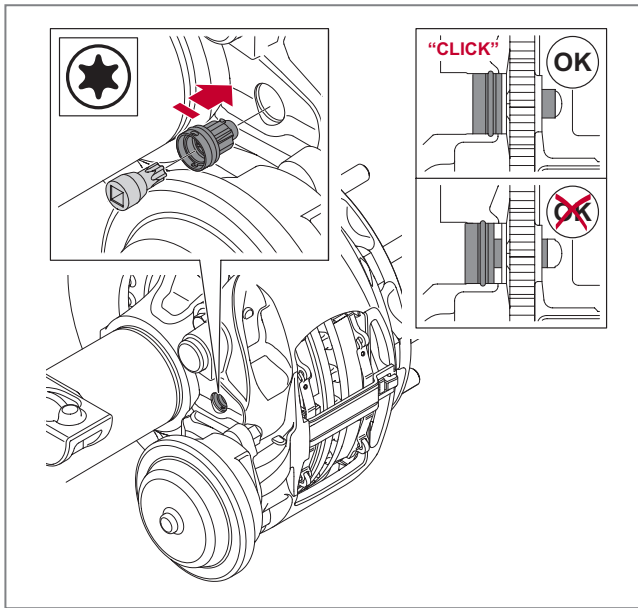

Fig. 74 - Installing the reset shaft
3. Push the reset shaft into position by hand. No impact or high forces are required as they may damage the reset shaft. The reset shaft will click into its position when fully engaged, see ► Fig. 74.